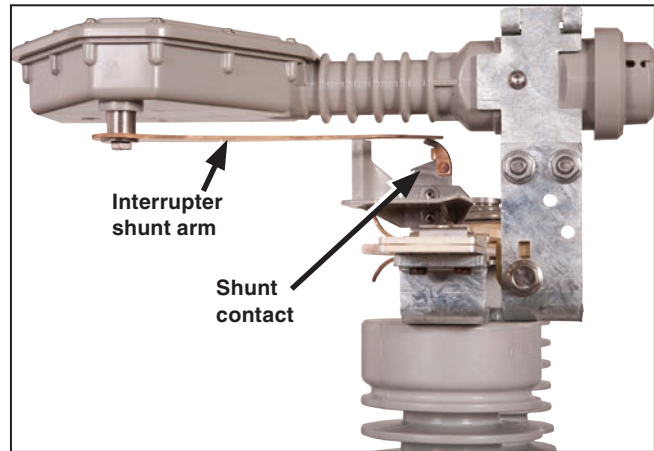

Figure 26. Interrupter shunt arm will be guided into position by the shunt contact.
- (a) The interrupter shunt arm should be guided into position by the curved back of the shunt contact. See Figure 26 on page 22.